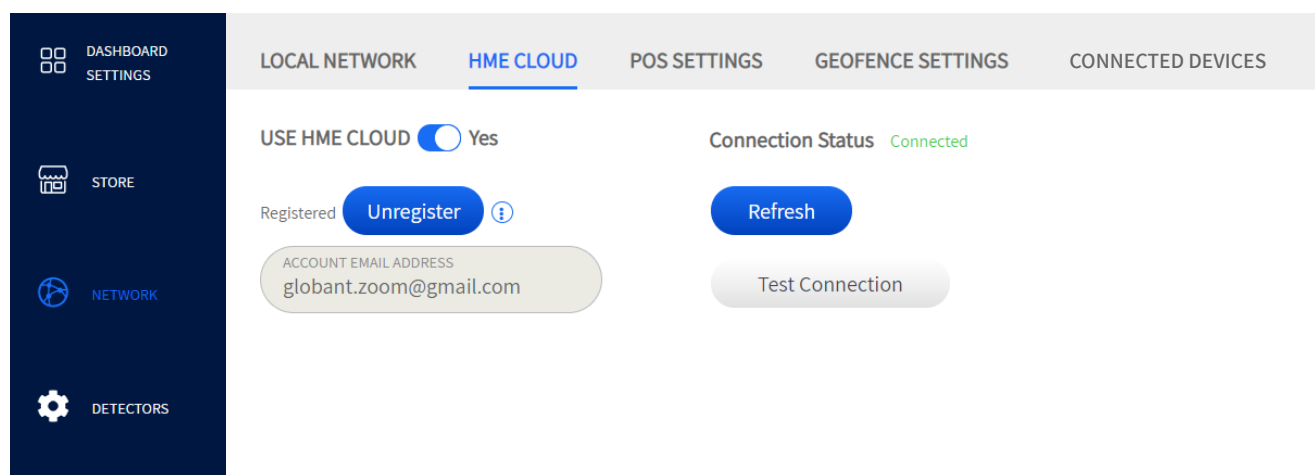

Fig. 5.2
**Example:** Fig 5.2 shows you have selected “YES” for the USE HME CLOUD feature. The CONNECTION STATUS shows that you are connected to the cloud. The ACCOUNT EMAIL ADDRESS is populated when you are registered. To change this email address, you must first unregister using the Unregister button. An email address only needs to be entered if you have an account set up. If not, leave blank, click “Save,” and then the “Refresh” button to connect.